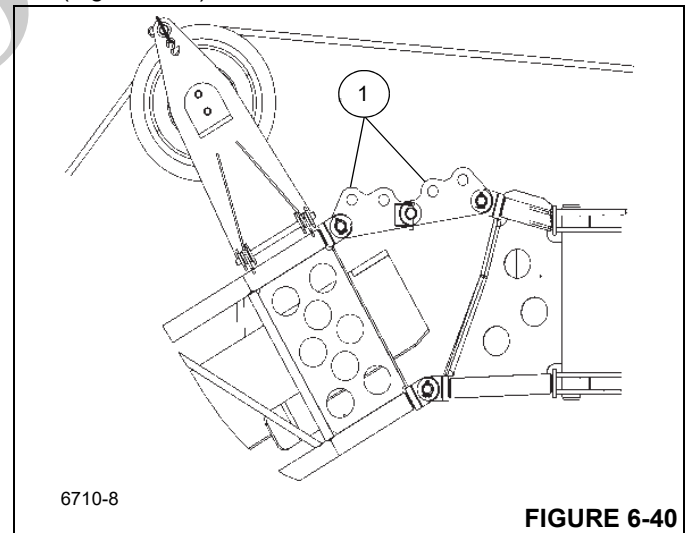

FIGURE 6-40
4. Slowly elevate and telescope the boom at the same time until the offset brackets (1), (Figure 6-40) are fully extended.